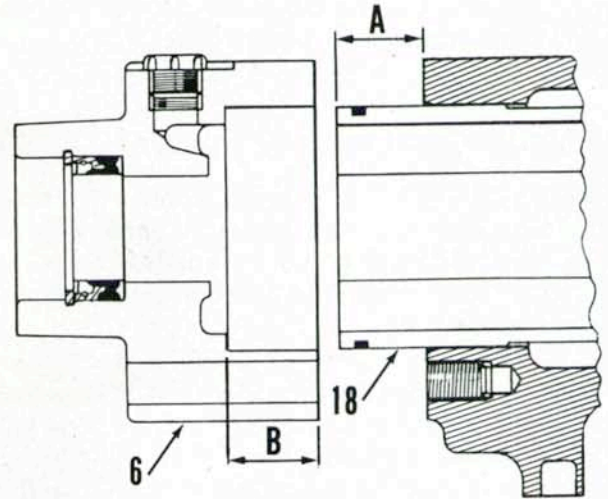

Fig. 79—Measure dimensions (A and B) to determine required thickness of steering cylinder tube shim.
(7—Fig. 77 or 78) to be installed between sleeve and left end cap. Install cylinder gland (if used) and sleeve into axle housing. On APL-365 axle, install right end cap (23—Fig. 78). On all axles, be sure sleeve is pushed fully into housing, then measure protrusion (A—Fig. 79) of sleeve from face of housing. Measure depth (B) of end cap counterbore. Subtract dimension (A) from dimension (B); the result is thickness of shim required to secure sleeve in axle housing.